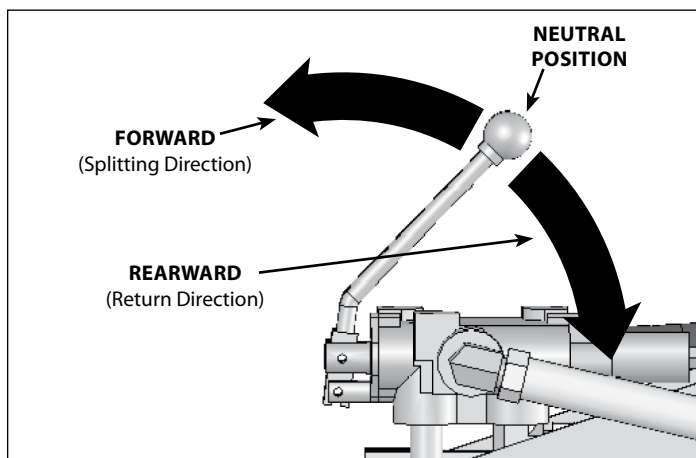
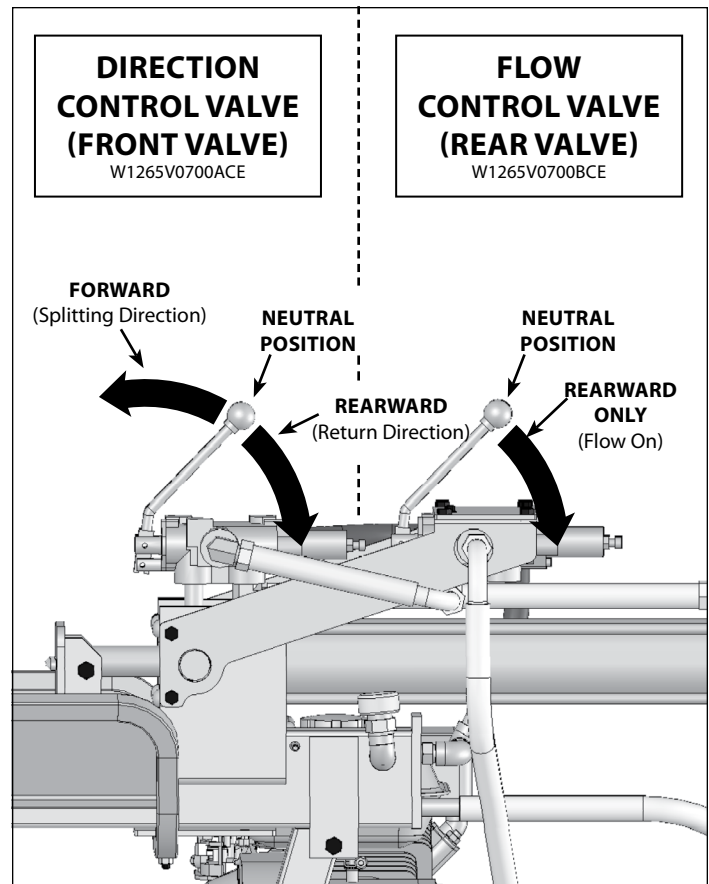

Figure 25: US Version
Figure 26 European Version
5. Move control lever forward to extend the hydraulic cylinder all the way. (It is normal for the cylinder to not move smoothly as it purges the air from the system.) **SEE FIGURE 25.** For European models with two valves, while holding the (rear) Flow Control valve lever in the rearward position with one hand, use the other hand to move the (front) Direction Control valve lever forward to extend the hydraulic cylinder all the way. **SEE FIGURE 26.**